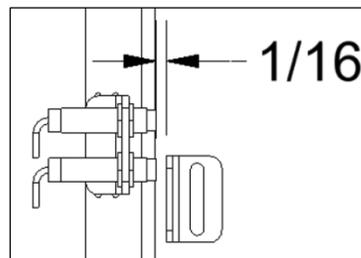

Fig. 3: Proximity Sensors
2.3.15 With the lift cylinder retracted (down position), check the position of the down proximity sensor. If needed, adjust the down proximity sensor block to a point where the LED light on the sensor comes on and the block completely covers the face of the sensor with a maximum 1/16” gap between the sensor and the block. (Fig. 3) **Note:** *Intrinsically safe sensors are opposite meaning the light will come on when the sensor leaves the block, and the light will go off when the sensor is in front of the block.*